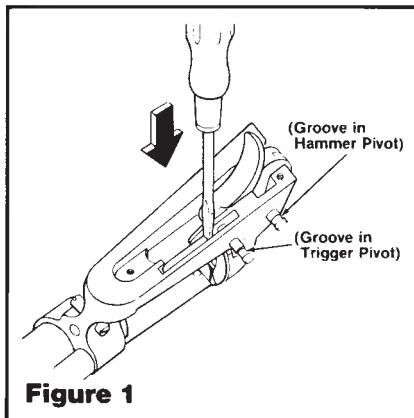

Figure 1
8. Removing the trigger pivot (pin) is one operation where it is useful to have a helper, because the novice usually needs a 'third' hand. Ideally, something like a bag filled with shot on each side of the gun will solidly anchor it as it should be. (See Figure 1, note the groove in the trigger pivot.) Using a screwdriver as shown in Figure 1, depress the gate detent spring so that the end of the spring which rests in one groove of the trigger pivot is free of the groove. Then, use a drift and hammer to push the pivot completely out of the frame. **CAUTION:** Press the screwdriver blade tip against the spring carefully and be certain the blade does not slip off the spring and damage the frame or injure the person holding the gun.
2. (Refer to Figure 1.) Align hammer in frame and insert hammer pivot with the grooved end of the pivot on the gate side of the frame. (The long screw, XRN-19L, when also inserted on the gate side, will intersect the groove and lock the pivot in place. See step number 11.)
4. (Refer to Figure 1.) Depress the upper arm of the gate detent spring with tip of screwdriver blade and install trigger pivot. Pivot should be inserted from the gate side of the frame. The *non-grooved* end of the pivot should be inserted first. (It may be necessary to manipulate the trigger, the gate detent spring, and the cylinder latch to align them to receive the trigger pivot.)